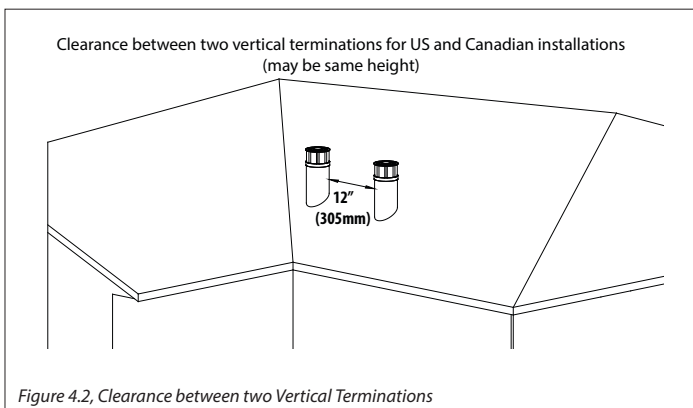
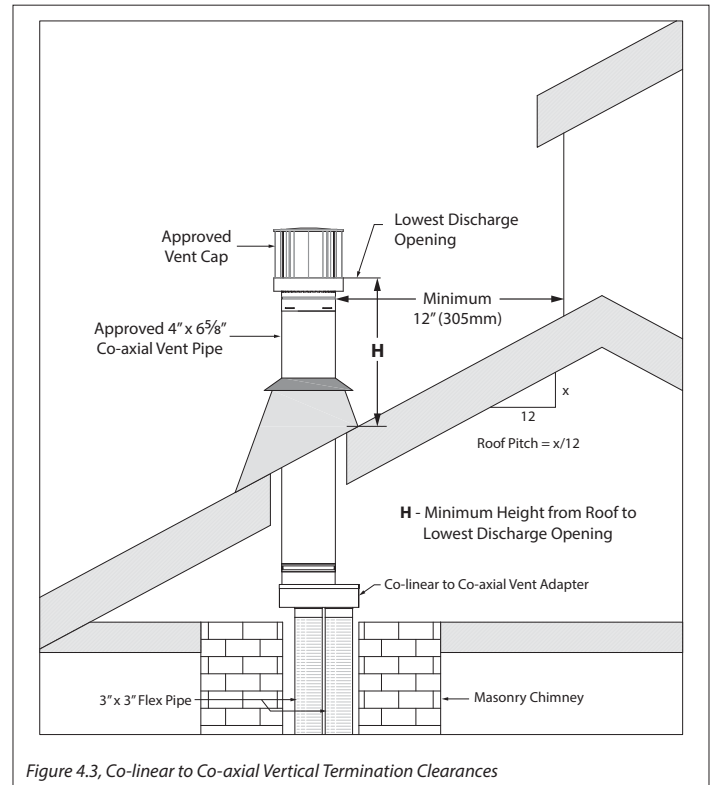

Figure 4.2, Clearance between two Vertical Terminations
Figure 4.3, Co-linear to Co-axial Vertical Termination Clearances
When combining co-linear and co-axial venting in a single venting system using an approved 4" x 6-5/8" adapter, use Figure 4.2, Figure 4.3, and Table 4.1 for proper termination clearances.
**Table 4.1, Minimum Vertical Termination Height (use with Figure 4.3)**